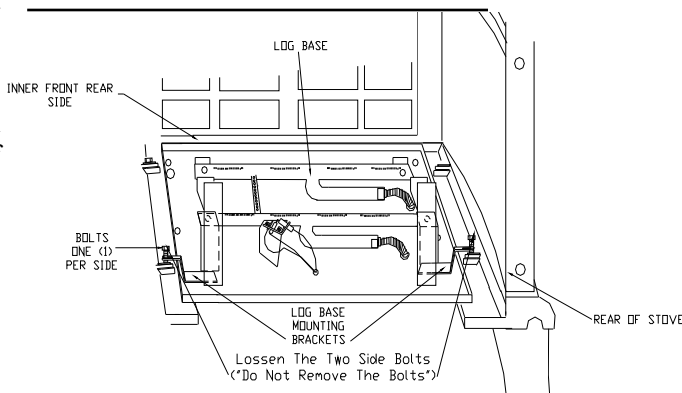

FIGURE 11 - INSTALLING LOG HEATER
6. Slide the Gas Log Heater Base forward until the front of the base is against the inner front rear side of the stove (See Figure 11).
7. Loosen – Do Not Remove the two (2) rear side bolts of the stove, (one (1) on the left rear side, and one (1) on the right rear side). Then place a Mounting Bracket (Mounting Brackets provided and packaged with Log Heater Base) between the Bolt head and the stove body. Ensure that the other end of the Mounting Bracket is placed on the heater base between the Rear Log Support and the Rear Burner Holder. Tighten the Bolts (See Figure 11).